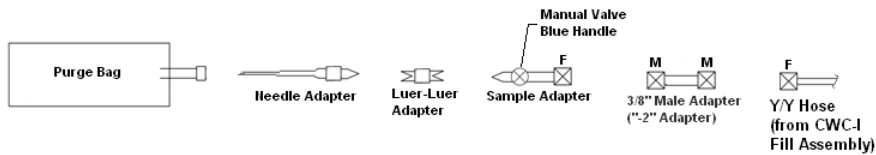

Figure 9-2.- CWC-I Fill Assembly purge hardware.
2. Assemble Purge hardware as shown in fig 9-2
1. De-mate all connections shown in fig 9-2